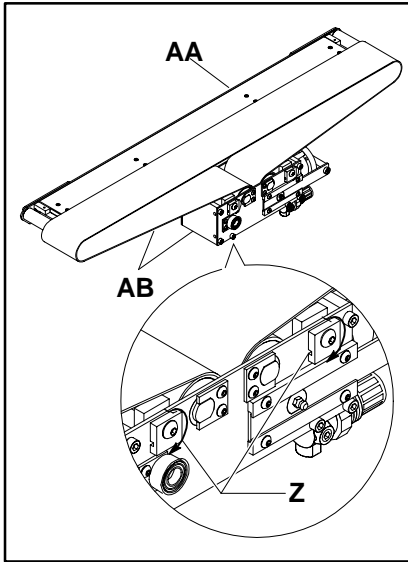

Figure 12
After the old belt has been removed from the conveyor, remove the center drive module with conveyor belt by loosening the drive clamp plates (Z of Figure 12). Only loosen the screws far enough for the clamp plates to rotate past the conveyor frame. Then, remove the center drive module with belt to a clean work bench for partial disassembly to remove the old conveyor belt (AB) using the following procedures.
Slide the conveyor frame (AA of Figure 12) inside the new conveyor belt loop on the top of the center drive module.